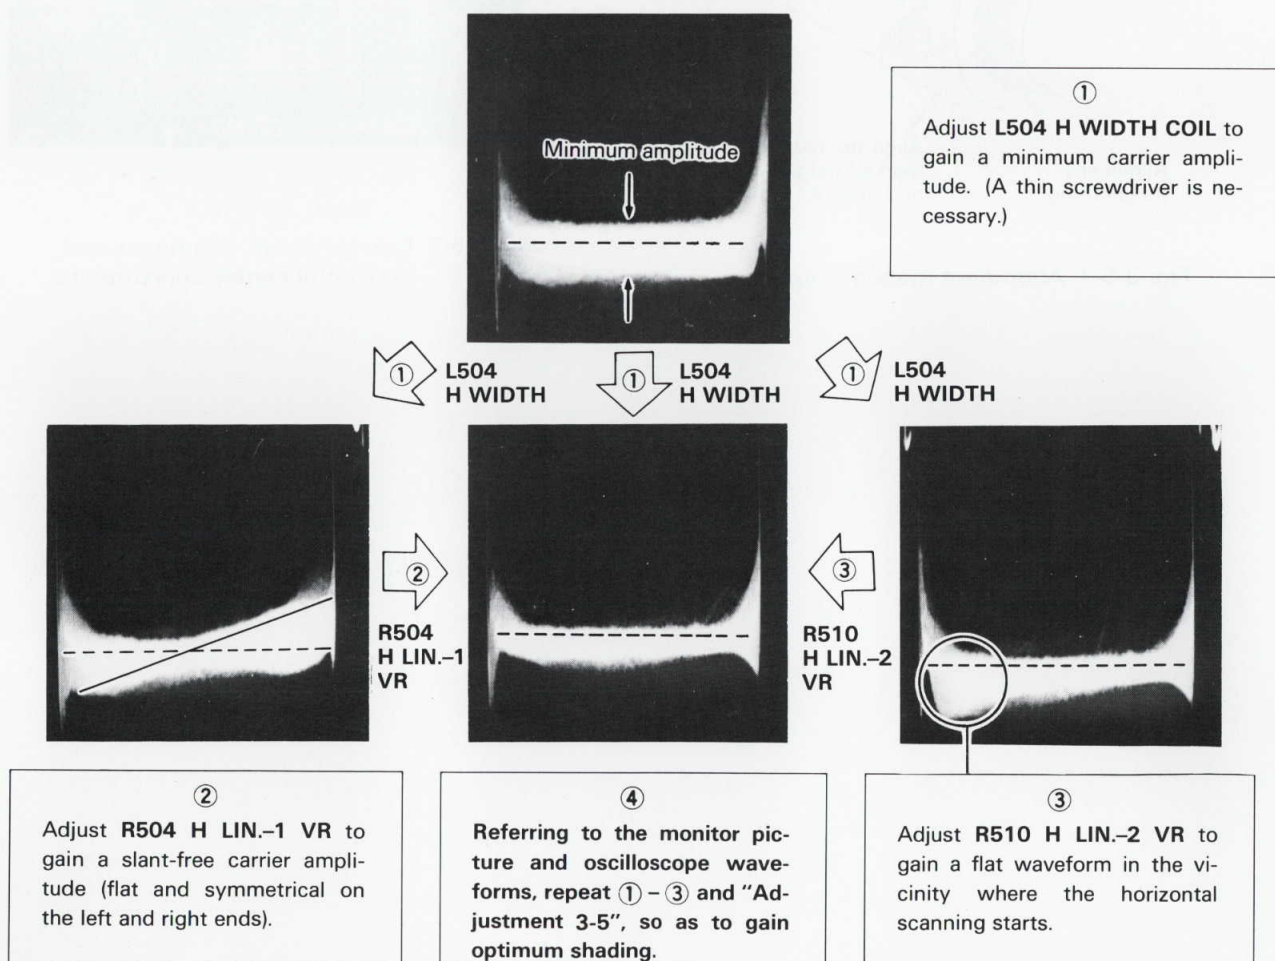

Fig. 3-6-1 Horizontal width and horizontal linearity adjustment
- (3) Adjust in accordance with procedures ① – ④ shown in Fig. 3-6-1.